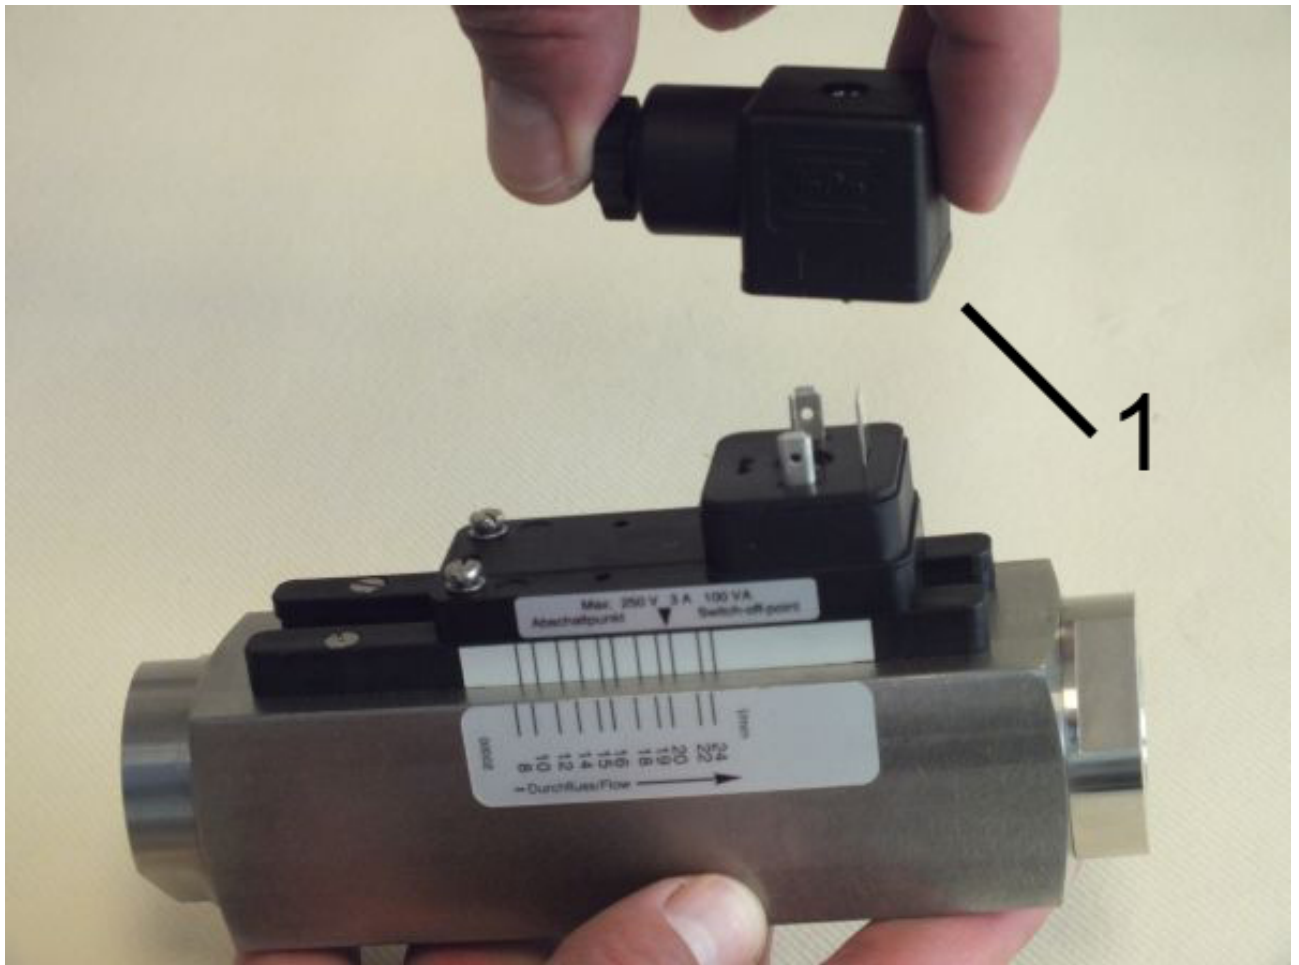

Fig. 59: Remove female socket
2. ➤ Remove the female socket and gasket (Fig. 59/01) by pulling upwards